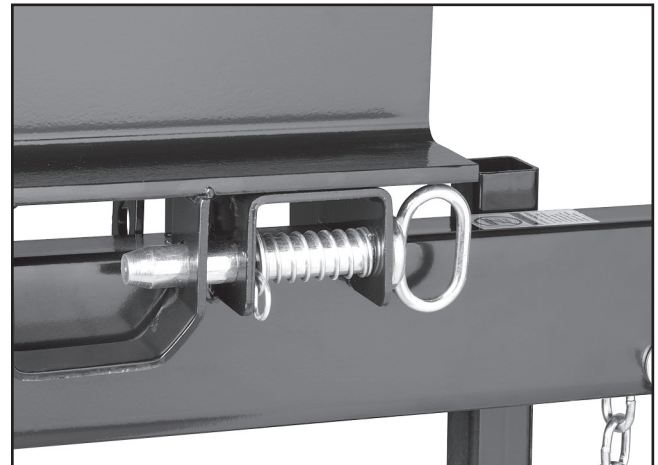

Figure 11. Beam lock.
14. Lock the beam in place in the horizontal position with the spring loaded lock pin shown in **Figure 11**.